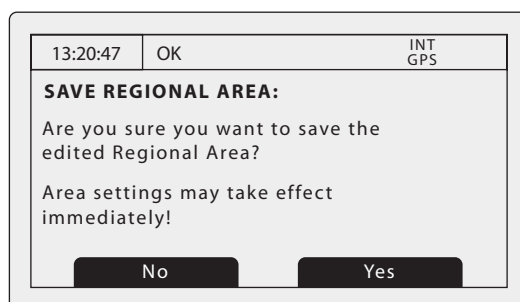

Figure 54 Regional area settings confirmation screen
7. You will be prompted to confirm storage of the regional area setting with the display shown in Figure 54.